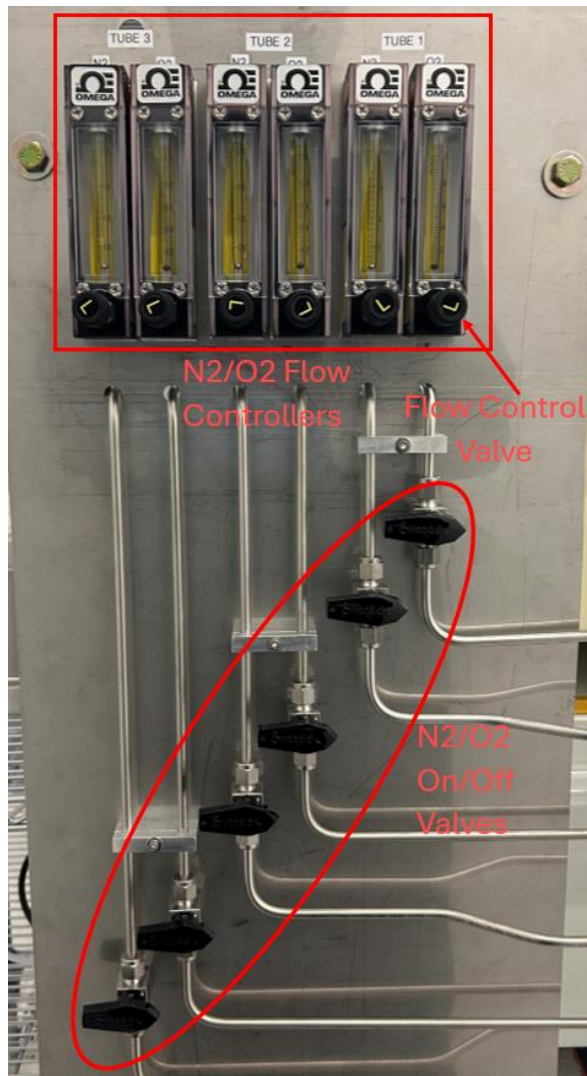

Figure 13: N2/O2 Supply On/Off Valves (bottom) and Flow Controllers (top)
- d. There are valves and flow controllers for each gas and each tube (Figure 13).